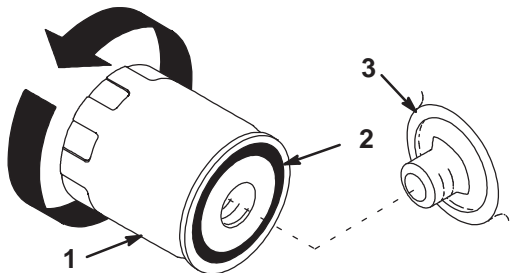

Figure 15
3. Apply a thin coat of new oil to the rubber gasket on the replacement filter (Fig. 15).
4. Install the replacement oil filter to the filter adapter. Turn the oil filter clockwise until the rubber gasket contacts the filter adapter, then tighten the filter an additional 1/2 turn (Fig. 15).